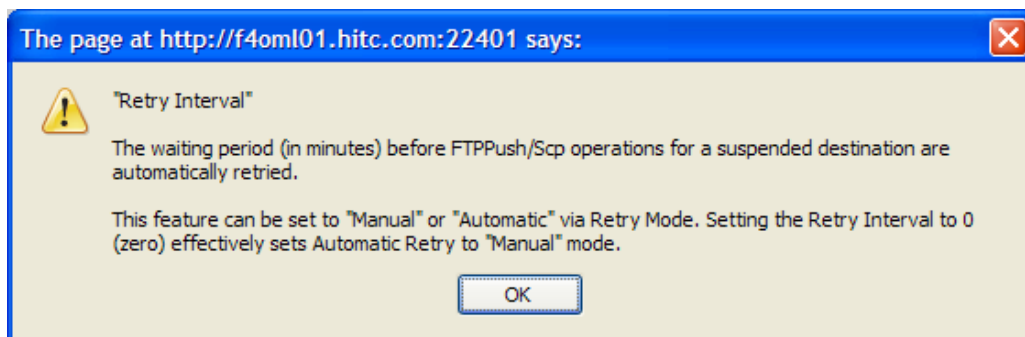

Figure 15.10-11. Context-Sensitive Help for Retry Interval Parameter
- The parameter description dialog box displays (Figure 15.10-11).